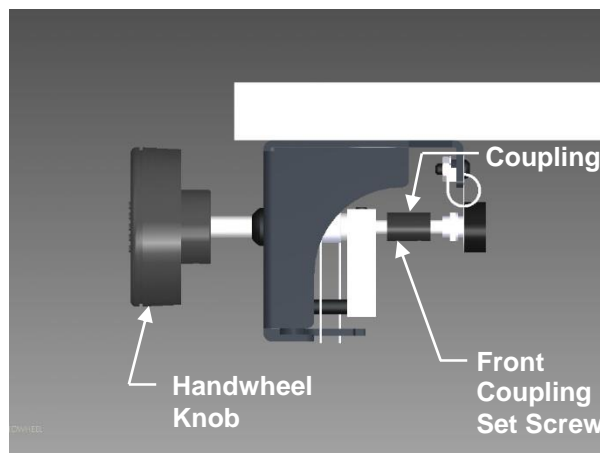

Figure 17 – Backgauge Control Assembly
2. Locate the coupling in the backgauge control assembly as shown in Figure 17. Some models have a cover that encloses the backgauge control assembly, although there will be a slot that provides access to coupling. It may be helpful, however, to remove the cover for better access.
3. Loosen the front coupling set screw (Figure 17) a few turns.